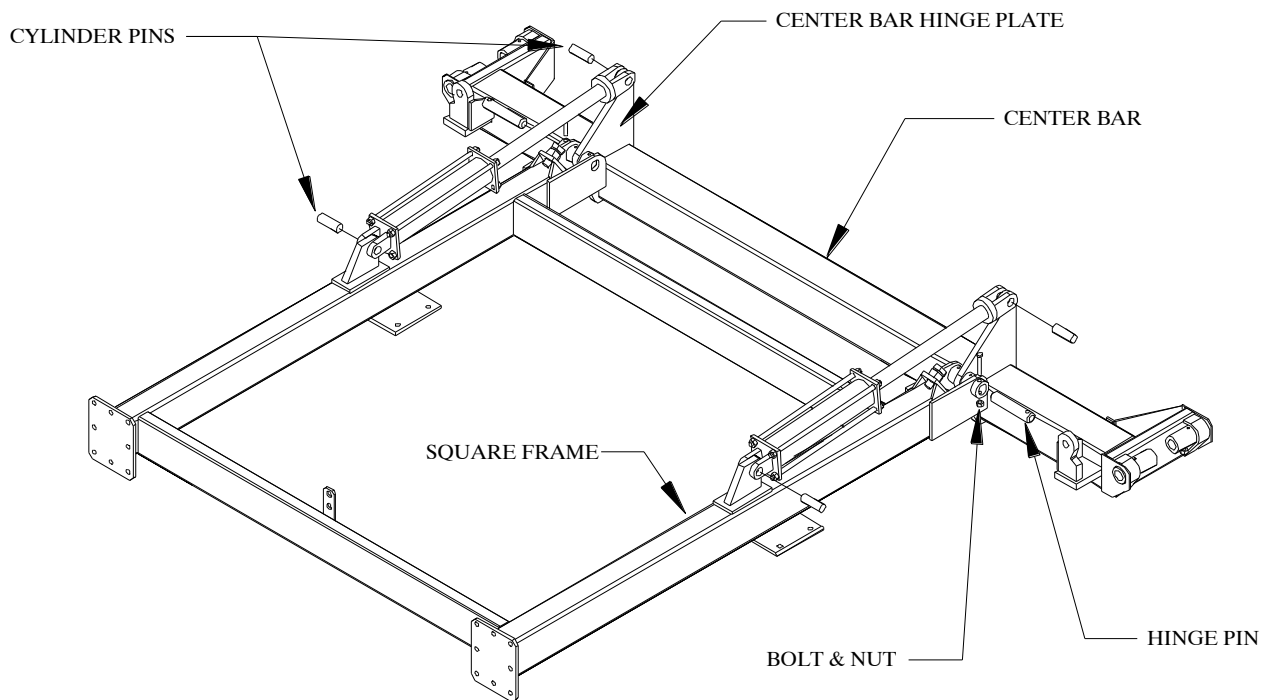

Figure 5
1. Attach the center bar to the square frame. Refer to Figure 5. Use the 1 1/2" x 7 1/16" (models HDL-1024 through HDL-1038) or 1 1/2" x 11 1/16" (models HDL-1040 through HDL-1060) hinge pins, 1/2" x 3" grade 8 bolts, and locking hex nuts.